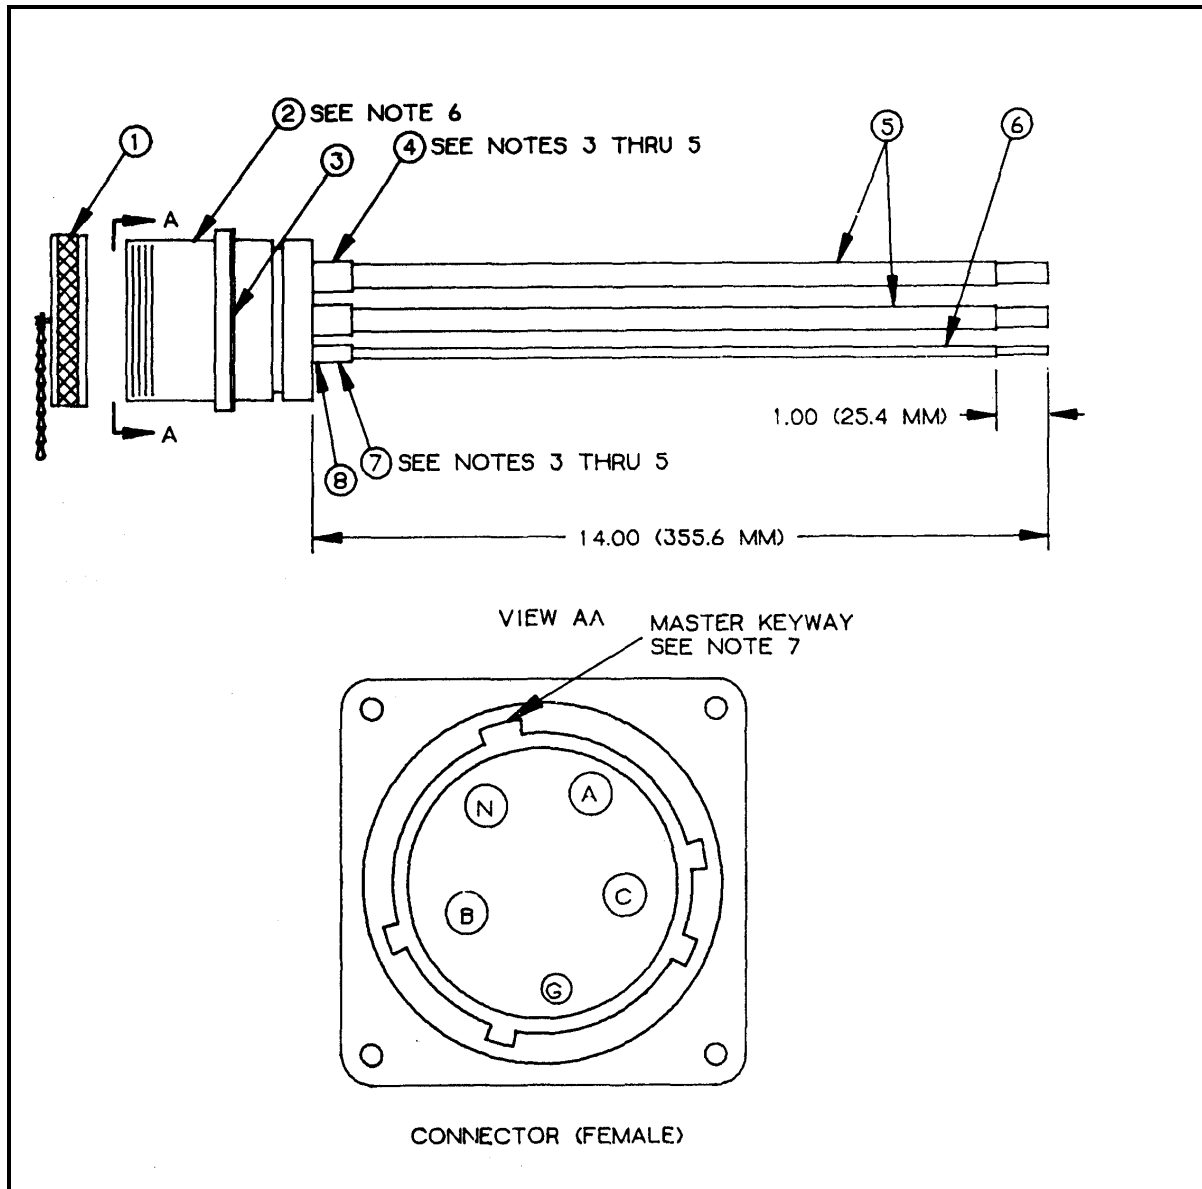

Figure F-9. Output Connector Assemblies, 40/60-Amp.
Component Legend for Figure F-9
- c. Electrical connector (Figure F-9, Item 2) is furnished with the following: